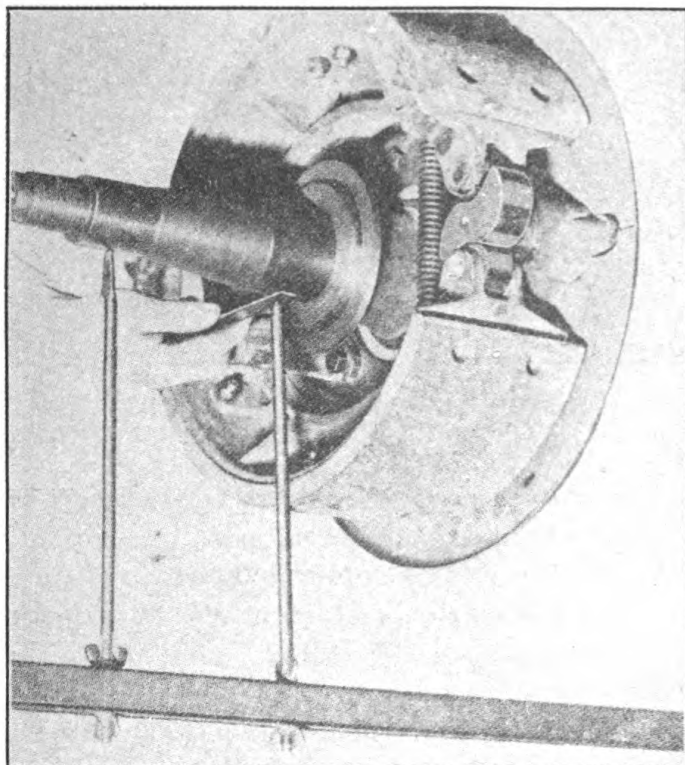

FIGURE 9. CHECKING AXLE FOR CAMBER.
4. CHECKING FOR CAMBER (Figure 9).—a. Set the points of the axle gauge in exactly the same position on the axle and in the same manner as outlined in points a. and b. of Checking for Bend.